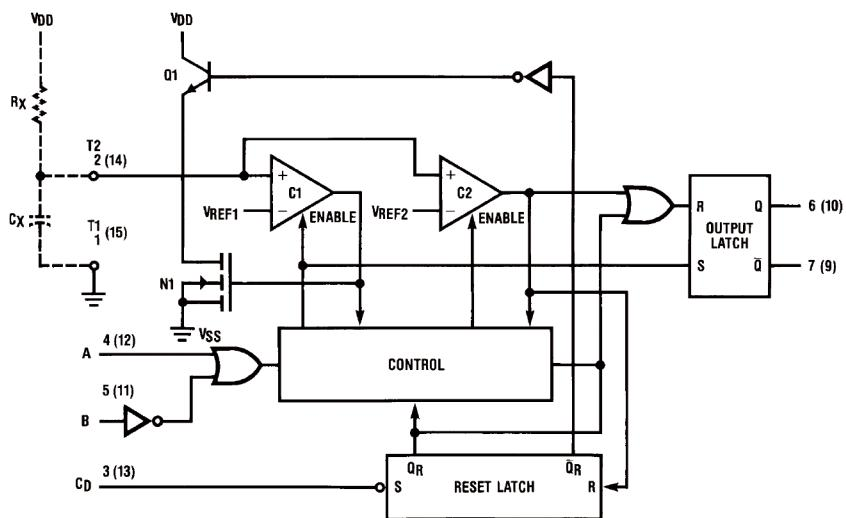

FIGURE 1
The block diagram of the CD4538B is shown in Figure 1 , with circuit operation following.
As shown in Figures 1 and 2 , before an input trigger occurs, the monostable is in the quiescent state with the Q output low, and the timing capacitor C_x completely charged to V_{DD}. When the trigger input A goes from V_{SS} to V_{DD} (while inputs B and C_D are held to V_{DD}) a valid trigger is recognized, which turns on comparator C1 and N-Channel transistor N1^①. At the same time the output latch is set. With transistor N1 on, the capacitor C_x rapidly discharges toward V_{SS} until V_{REF1} is reached. At this point the output of comparator C1 changes state and transistor N1 turns off. Comparator C1 then turns off while at the same time comparator C2 turns on. With transistor N1 off, the capacitor C_x begins to charge through the timing resistor, R_X, toward V_{DD}. When the voltage across C_x equals V_{REF2}, comparator C2 changes state causing the output latch to reset (Q goes low) while at the same time disabling comparator C2. This ends the timing cycle with the monostable in the quiescent state, waiting for the next trigger.